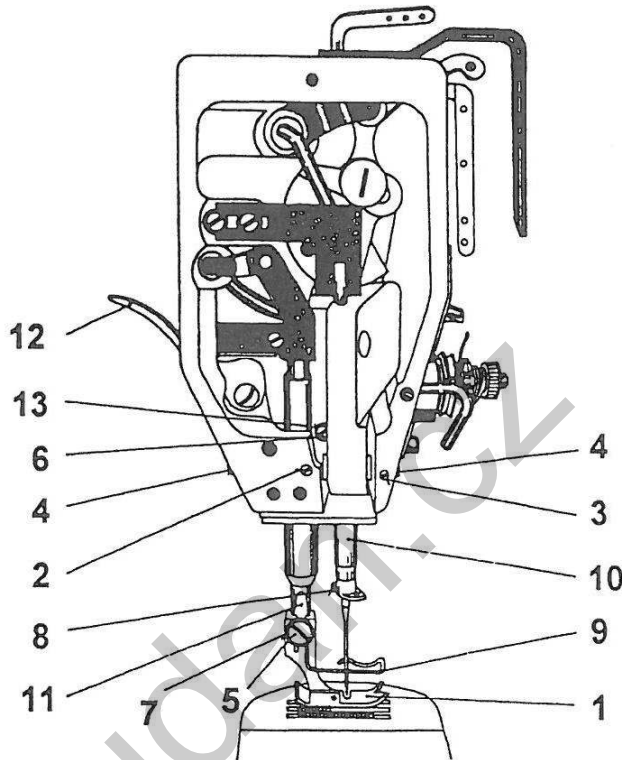

Fig. 4
### 5. To lift the presser foot (Fig. 4)
## 7. To insert the needle (Fig. 4)
**8. To adjust in height the needle bar (Fig. 4)**
#### 14. To exchange the presser foot (Fig. 4)
#### 16. To adjust the needle punches longitudinally into the centre of the slot of the throat plate (Fig. 4)